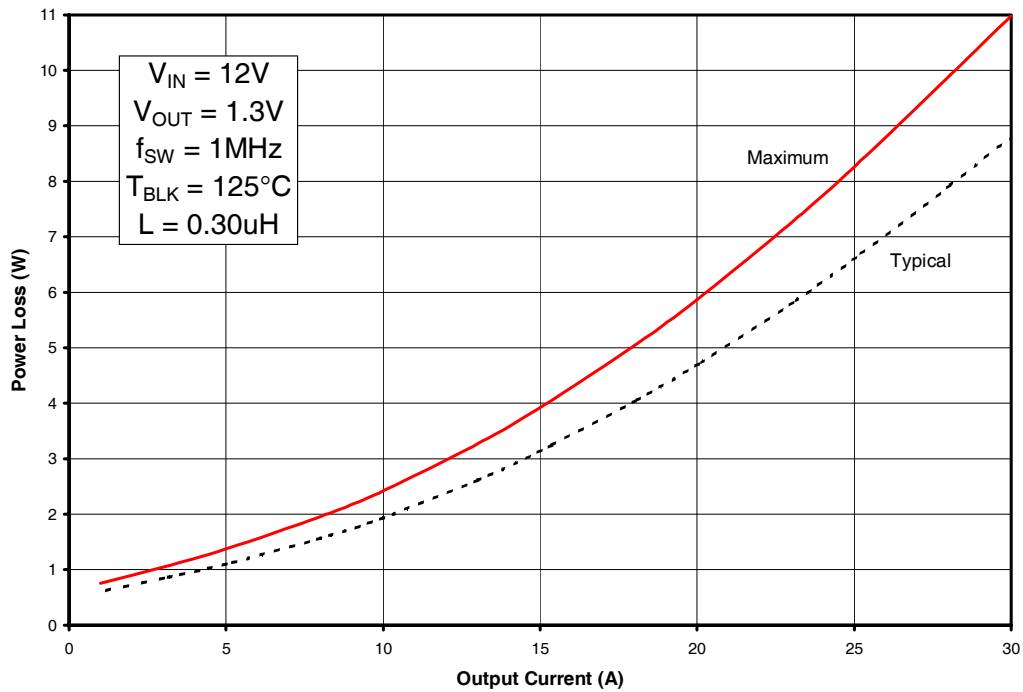
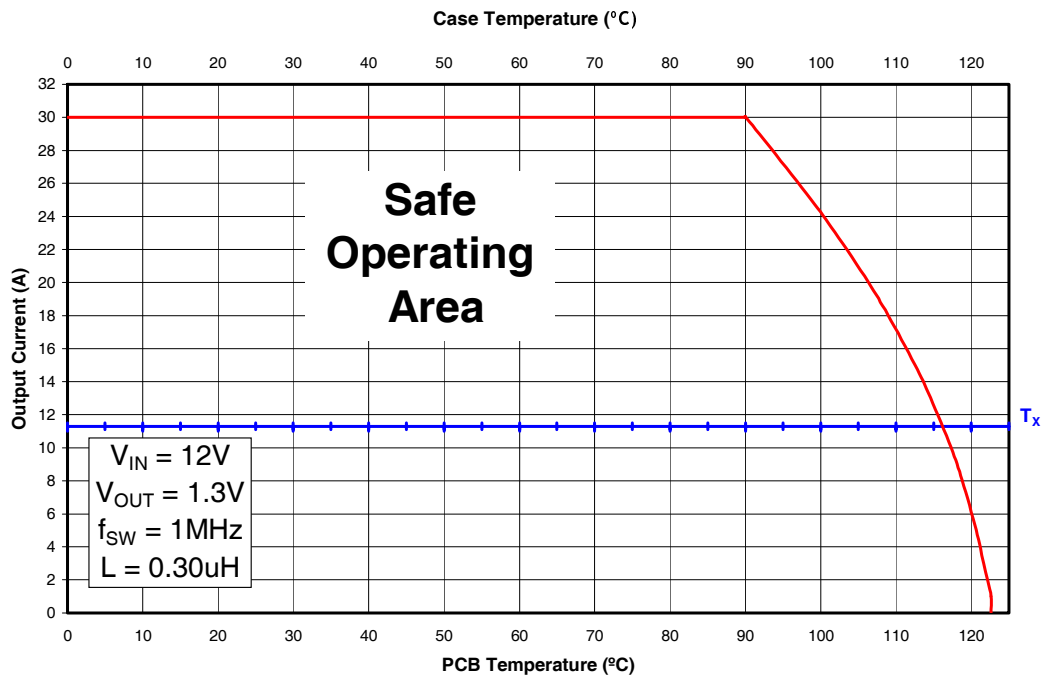
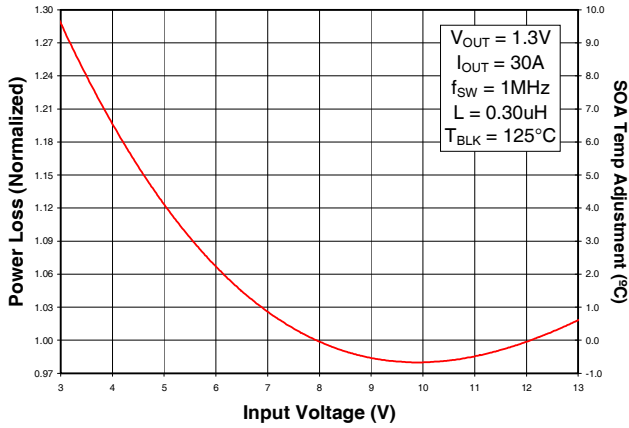

Fig. 1: Power Loss vs. Current
Fig. 2: Safe Operating Area (SOA) vs. T_{PCB} & T_{CASE}
Fig. 3: Normalized Power Loss vs. V_{IN}
| Input Voltage Range | V _{IN} | 3.0 | - | 13.2 | V | see Figs. 2 & 3 |
| Output Voltage Range | V _{OUT} | 0.8 | - | 3.3 | V | see Figs. 2, 4 & 8 |
| Output Current Range | I _{OUT} | - | - | 30 | A | see Fig. 2 |
| Operating Frequency | f _{sw} | 150 | - | 1000 | kHz | see Figs. 2 & 5 |
To make adjustments to the power loss curves in Fig. 1, multiply the normalized value obtained from the curves in Figs. 3, 4, 5 or 6 by the value indicated on the power loss curve in Fig. 1. If multiple adjustments are required, multiply all of the normalized values together, then multiply that product by the value indicated on the power loss curve in Fig. 1. The resulting product is the final power loss based on all factors. See example no. 1.
To make adjustments to the SOA curve in Fig. 2, determine your maximum PCB Temp & Case Temp at the maximum operating current of each iP2002PbF. Then, add the correction temperature from the normalized curves in Figs. 3, 4, 5 or 6 to the T_x axis intercept (see procedure no. 2 above) in Fig. 2. When multiple adjustments are required, add all of the temperatures together, then add the sum to the T_x axis intercept in Fig. 2. See example no. 2.
- (Fig. 1) Maximum power loss = 11W
- (Fig. 3) Normalized power loss for input voltage ≈ 0.98
- (Fig. 3) Normalized SOA Temperature for input voltage $\approx -0.8^{\circ}\text{C}$